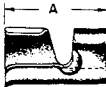

Fig. 16—Strand Serving Sleeve
- (a) The strand serving sleeve illustrated in Fig. 16 is used for serving the tails of guys when the guy clamp method is used. They are available in sizes corresponding to the outside diameter of standard galvanized strand. The strand size is indicated on each sleeve.